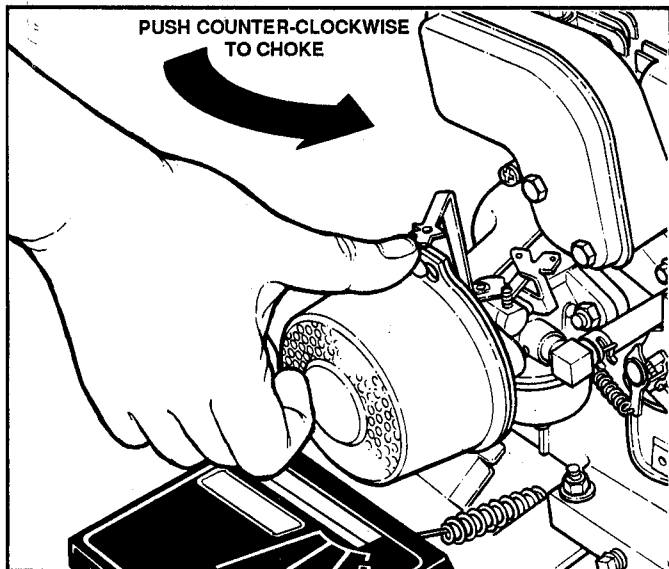

FIGURE 5
**STEP 2:** On cold starts, move the CHOKE CONTROL on the engine to CHOKE position. See Figure 5.